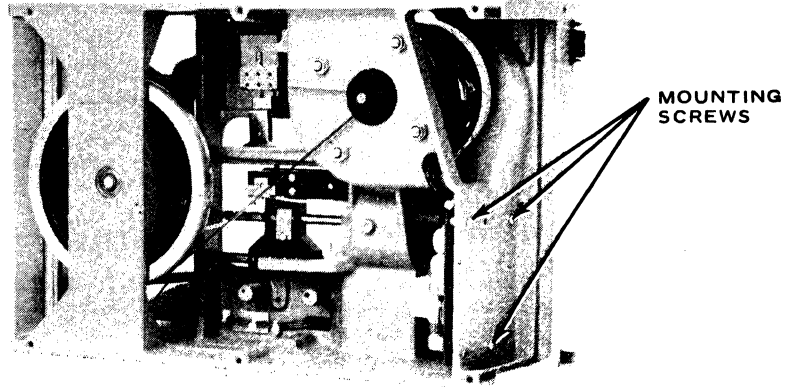

Figure 7-4. Ac Control Board Mounting Screws
- c. Remove three screws holding ac relay board, Figure 7-4.